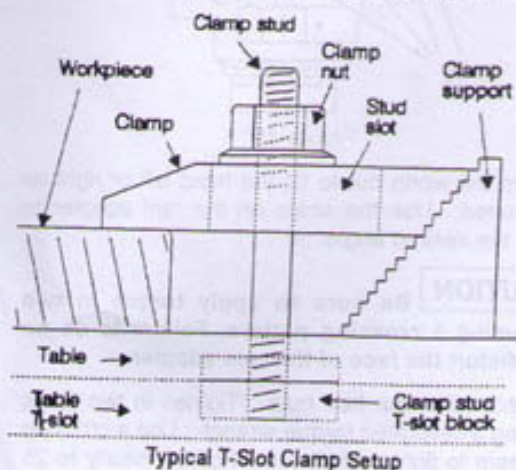

Figure 18
- Clamp the work piece using the T-slot clamps, studs, and step blocks as required (Figure 18).